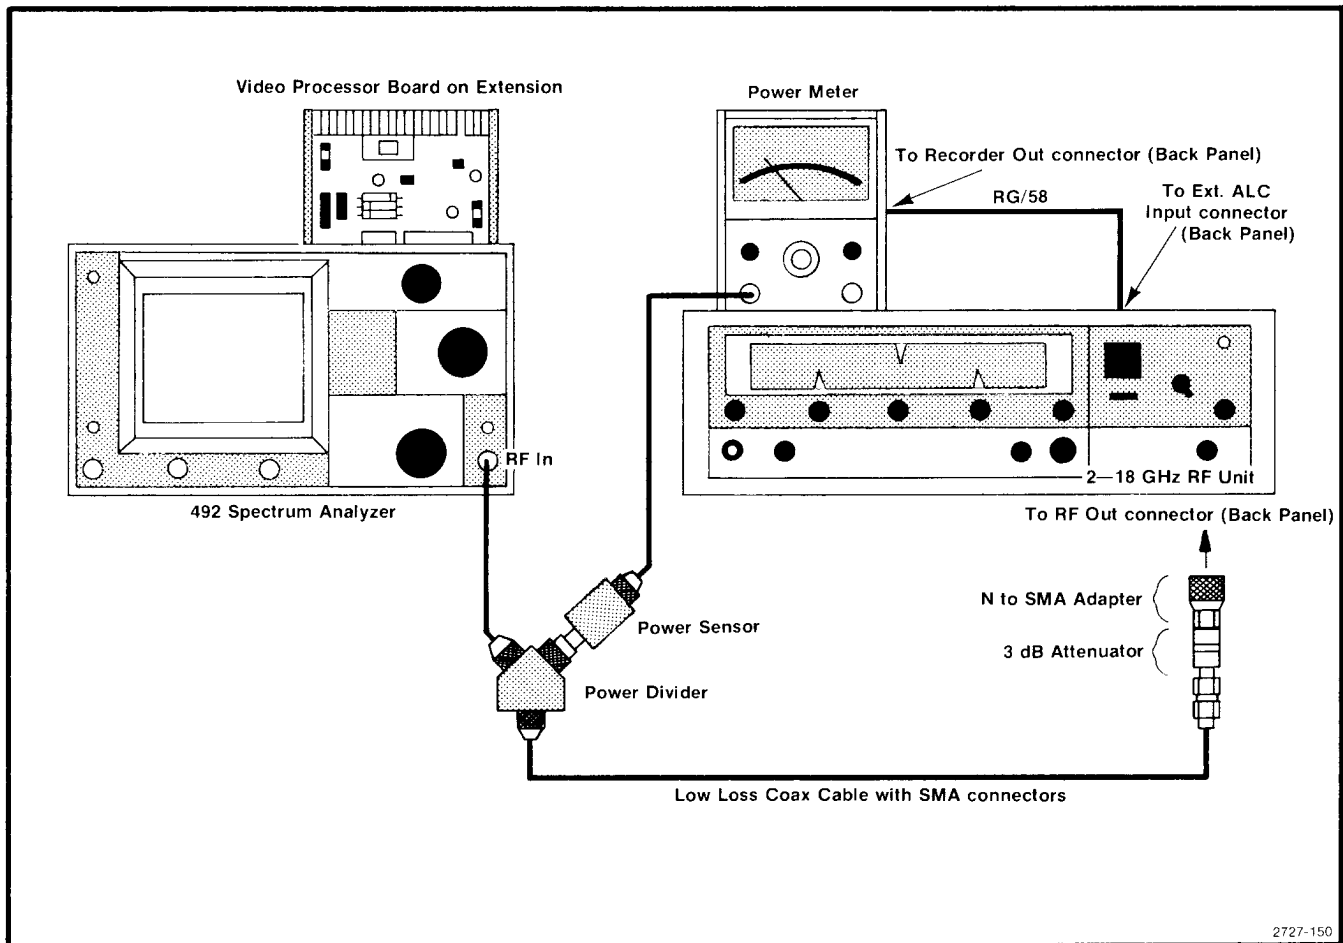

Fig. 3-35. Test equipment setup for adjusting baseline leveling.
a. Test equipment setup is shown in Fig. 3-35. The output of the sweep generator is applied through a 3 dB attenuator and high performance coaxial cable to a power divider. Connect one output of the power divider directly to the RF INPUT of the 492/492P and the other to the sensor for the power meter. Set the RF plug-in ALC switch to MTR position and connect a coaxial cable between Recorder Output of the power meter and the Ext ALC Input of the 2—15 GHz plug-in unit on the sweeper. Set the Power Level to approximately -10 dBm then adjust the Gain on the unit for stable operation (output stops oscillating).